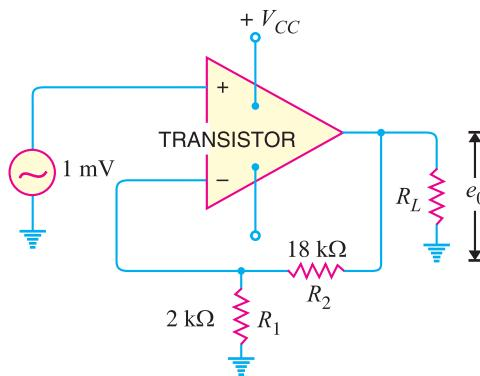

Fig. 13.8
**Example 13.11.** Fig. 13.8 shows the negative voltage feedback amplifier. If the gain of the amplifier without feedback is 10,000, find :